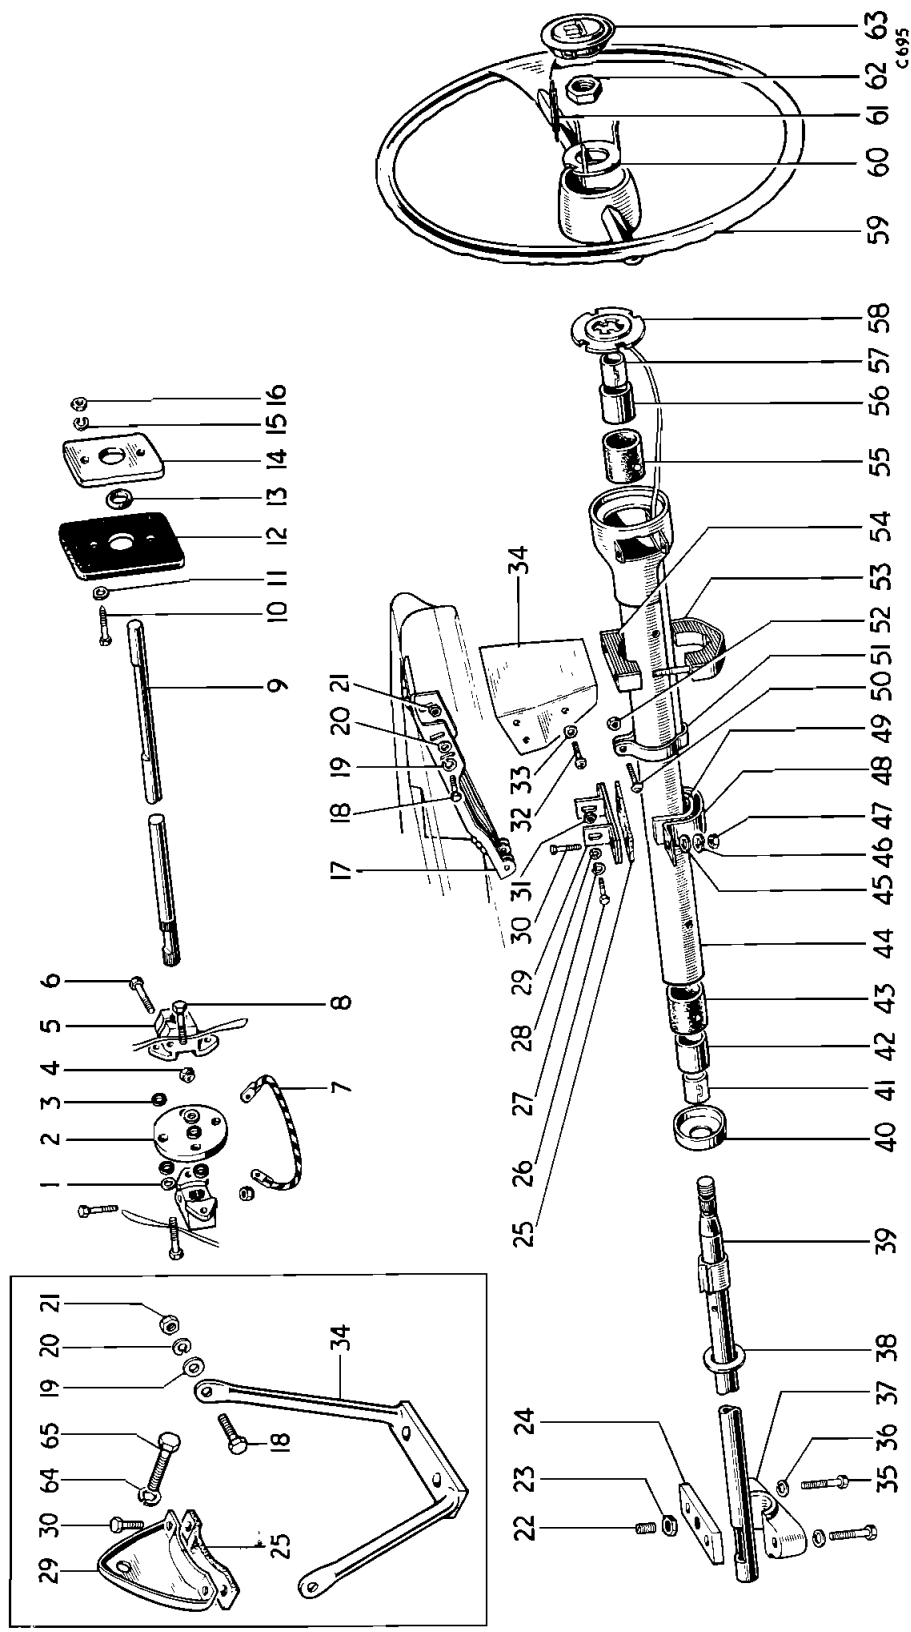

Fig. 20. Exploded arrangement of steering column
Key to Fig. 20
3. Referring to Figs. 20 and 23, remove the outer column support clamp (48) (lower) and the lower portion of the steering column upper clamp (53).